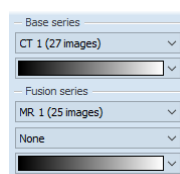

Figure 315 – Series and color map selection
1. Click the **Base series** combo box to select the primary series (see Figure 315).